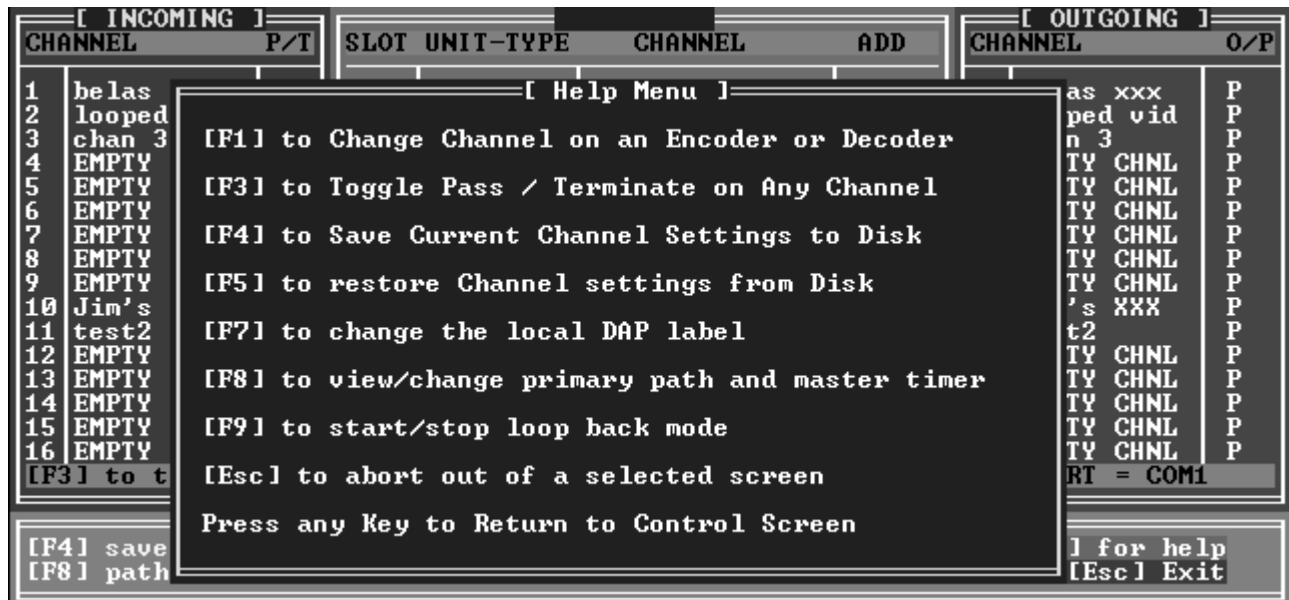

Figure DLP3-1. Help Menu
2. At the DAP Control Screen, press **F6**. The Help Menu screen is displayed in the central part of the DAP Control Screen, as shown in Figure DLP3-1.